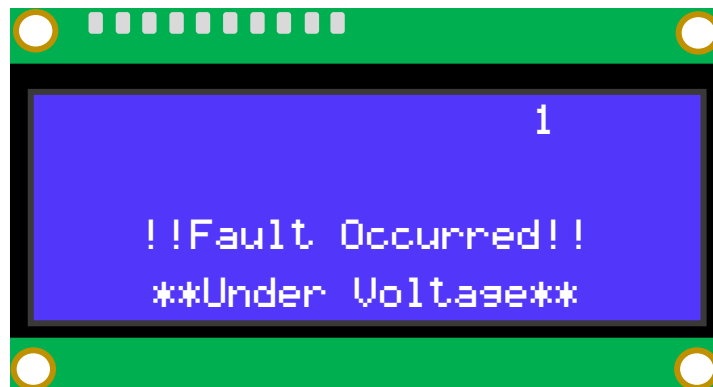

Figure 8 Fault Occurred with the Fault Name.
6. In the case of a problem, the display will indicate "Fault Occurred" along with the fault name status (Figure 8). Refer to section 6.2.1 for further information about the fault.